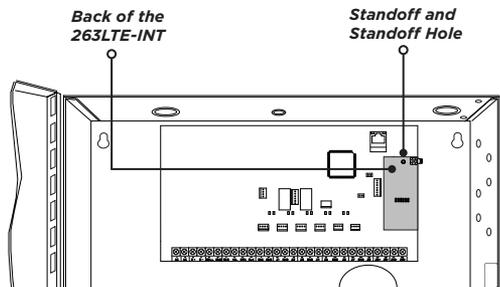

Figure 3: 263LTE-INT on an XRINT Series Control Panel
3. Secure the 263LTE-INT on the 12-pin cell module connector. See Figure 3.